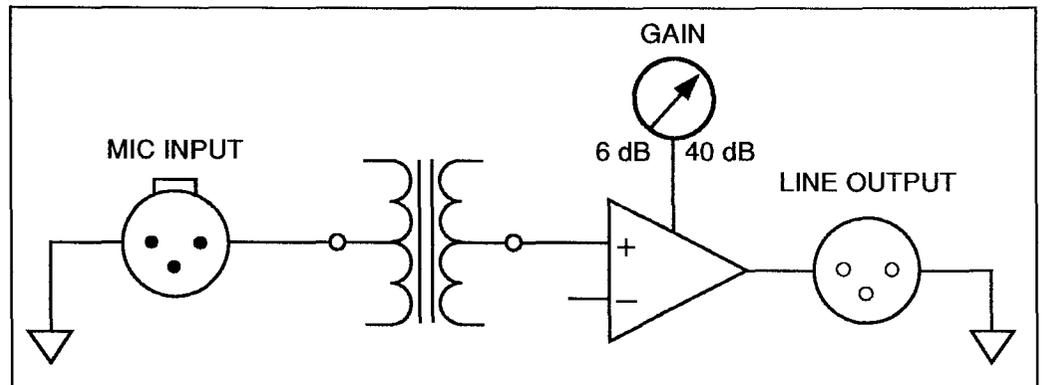

Figure 7-10. Microphone preamplifier block diagram
**EXAMPLE 1.** Figure 7-10 shows the block diagram of a microphone preamplifier. From it, we can deduce a number of things about the unit.